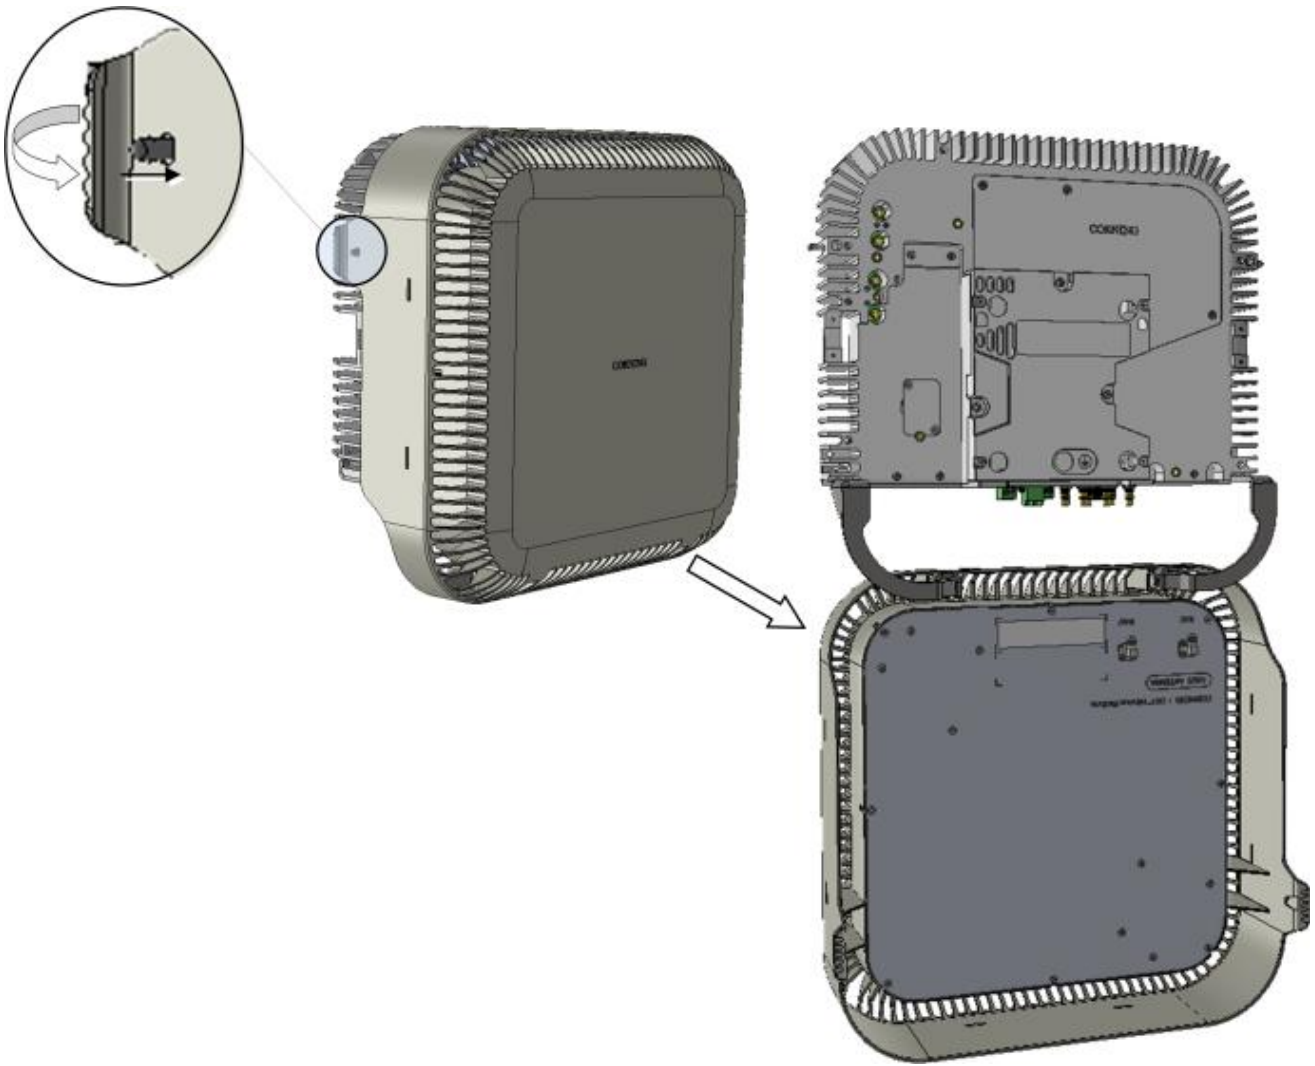

Figure 7-1. Opening RAU5x Antenna
- For RAU5x units with assembled broadband antenna – open antenna by pushing in on the pins on both sides of the antenna cover and pulling on the side handles, as show in Figure 7-1.